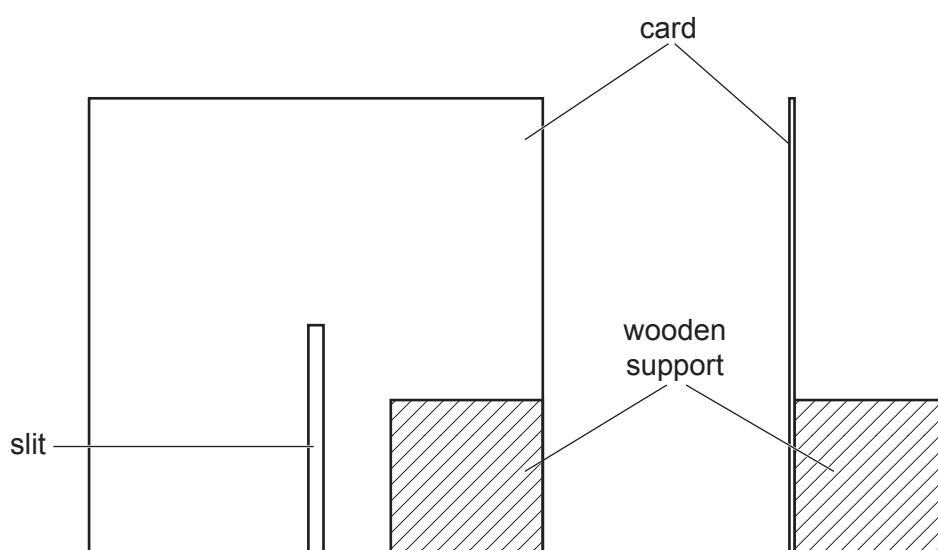

Fig. 1.1
- 2 A sheet of stiff card or thin wood, approximately 60 mm × 60 mm, fixed to a wooden support is suitable. The sheet must have a slit 30 mm long and 1 mm to 2 mm wide, as shown in Fig. 1.1.